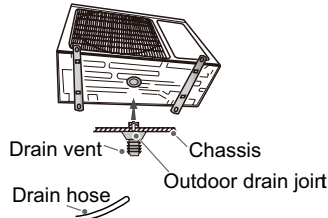

Fig.19
- (1) Connect the outdoor drain joint into the hole on the chassis.
- (2) Connect the drain hose into the drain vent.
- NOTE:As for the shape of drainage joint,please refer to the current product.Do not install the drainage joint in the severe cold area.Otherwise,it will be frosted and then cause malfunction.(As show in Fig.19)